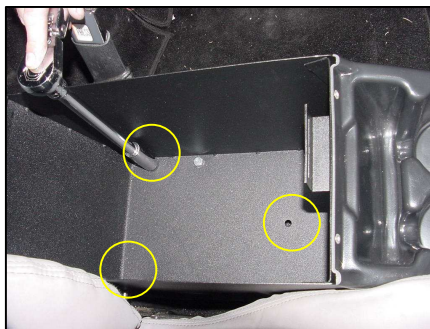

Figure 5
5. Remove the Security Floor Console, cut holes in the carpet where the marks are and drill a 5/16" hole on each marked spot (Figure 5). Use touch up paint or silicone sealant (not included) in any drilled holes to prevent rusting.
11. Locate (2)-5/16" x 2/12" Hex Head Bolts, (4)-5/16" Flat Washers, and (2)-5/16" Lock Nuts. Fasten down the rear of the console through rear holes in the Security Console and holes in mounting Bracket by using the hardware listed in this step (Figure 5).
12. Locate (1)-5/16 x 1 3/4" Hex Head Bolt, (2)-5/16" Flat Washers, and (1)-5/16" Lock Nut. Fasten down the front of the Security Console by using the hardware listed in this step (Figure 5).